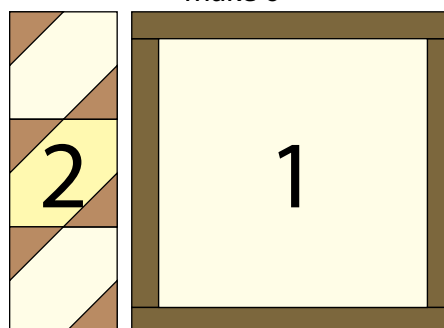

Fig. 36
*(Follow the Place Mat Layout in Figure 36 while assembling the place mats.)*
30. Sew (1) Block Two strip to the left side of (1) Block One square to make (1) Place Mat top (Fig. 36). Repeat to make (6) Place Mat tops total.
32. Sew the (10) 2 1/2" x WOF Fabric B strips together, end to end with 45-degree seams, to make the binding. Fold this long strip in half lengthwise with wrong sides together and press. Cut the strip into (6) equal lengths for the bindings.